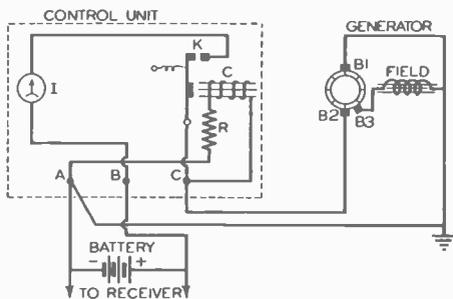

FIG. 1. Circuit diagram of typical wind-driven battery charger installation.
*Interference Problems.* Any wind-driven generator may produce interference. A whining sound which changes in frequency with variations in wind velocity will probably be due to arcing at the brushes. To cure this, clean the commutator by wrapping 00 sandpaper over the end of a rectangular stick and holding this against the commutator while the generator is rotating. Slide the sandpaper back and forth along the commutator until the entire surface is smooth and bright. To make the generator act as a motor and rotate independently of the wind while cleaning the commutator, connect together terminals *B* and *C* in Fig. 1. If the brushes require reseating, place a strip of sandpaper around the commutator with the cutting surface up, then rock the armature by hand while all brushes are resting on the sandpaper; this will make the brushes conform to the curved shape of the commutator.
*Generator Data.* The generator unit will be essentially like that used in automobiles. The use of a 3-brush collecting system on the commutator makes it possible to maintain approximately constant power output for a considerable range of variation in speed. The circuit diagram of a typical wind-driven generator installation is shown in Fig. 1; note that relay coil *C* and resistor *R* are in series with the generator at all times. Resistor *R* limits the current flow until sufficient generator voltage has been developed to charge the battery; when this
*Converter Type Push-Button Tuners.* A converter unit is the simplest type of push-button tuner which you can add to a radio receiver, but at the same time it is the most costly. Briefly, the converter contains a combination oscillator-mixer-first detector stage which converts an incoming radio signal to the fixed frequency to which the broadcast receiver is set when automatic tuning is desired. The outdoor antenna is connected to the converter, and the output of the converter feeds into the antenna and ground terminals of the receiver. A typical converter unit is shown in Fig. 1; since this has a self-contained power supply and is provided with a 15-foot cable, remote control push-button tuning is perfectly possible. The extra cost of this unit is quite justifiable when the customer desires remote control in addition to push-button tuning.
FIG. 1. Melsner remote control automatic tuning unit, a converter-type unit which permits push-button tuning of any one of seven stations from any point up to 1500 feet away from the receiver. The eighth button restores manual tuning at the receiver, and the knob on the cabinet controls volume. This unit may be used with any T.R.F. or superheterodyne receiver.